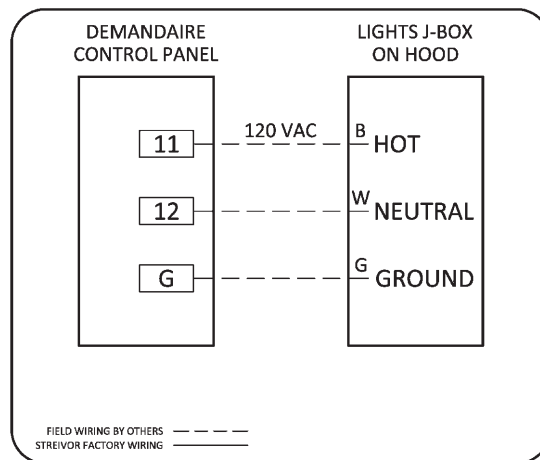

FIGURE 6: Light Power Circuit Wiring
- Connect 120 VAC single phase power from terminal block 11 (hot), terminal block 12 (neutral), and *ground* in the control panel to the wires labeled “Lights” in the junction box on the hood (*Figure 6*).